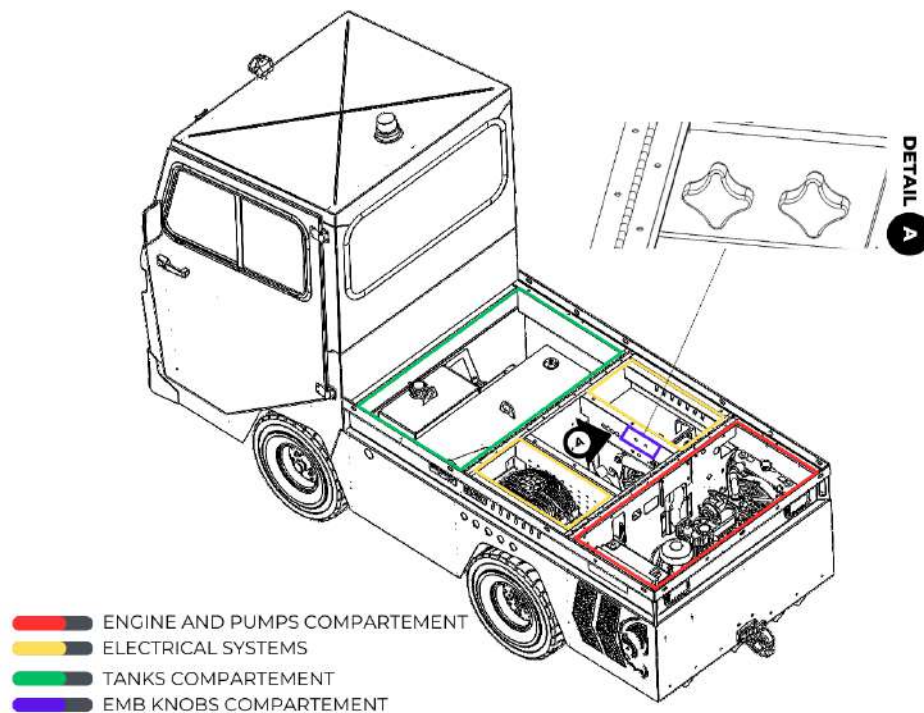

Figure 1. Equipment Compartments.
Removing the deck at the back of the vehicle gives access to all the compartments containing the major systems of the vehicle. Refer to Figure 1 for more details.
**NOTE 1 :** The EMB Service Knobs Compartment is located in the blue zone (illustrated in figure 1) and is easily accessible for maintenance and servicing purposes. The knobs themselves are usually located within the compartment and tightening and loosening the knobs can be done manually.